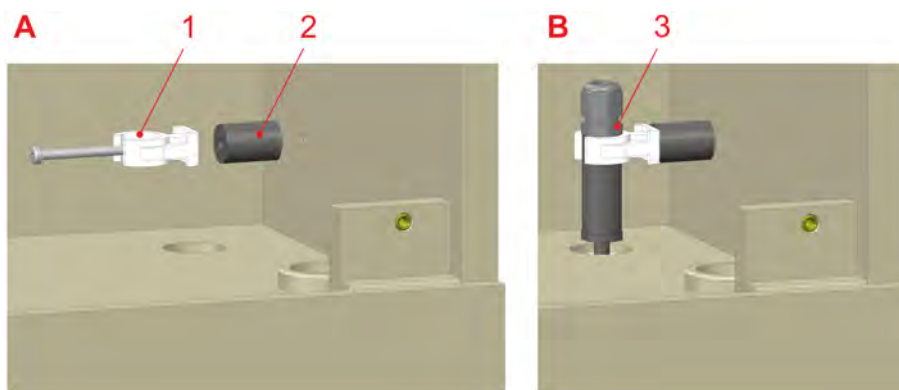

Fig. 19: Assembly of the leak sensor
- 1.** ➤ Screw the spacer (Fig. 19, A, no. 2) and hose clamp (Fig. 19, A, no. 1) into the rear right corner of the wall bracket.
- 2.** ➤ Clip on the leak sensor, Fig. 19, B, no. 3, lowering it into the inlet of the sump.